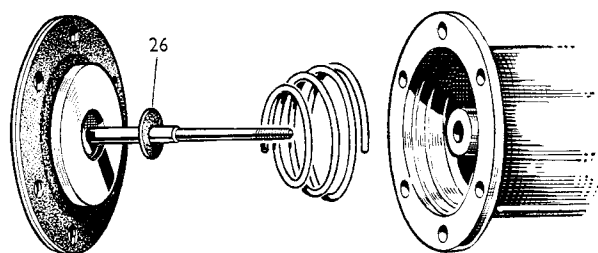

Fig. D.4.
taken to see that an impact washer (26), Fig. D.4, is fitted in the recess in the armature, and the latter should then be screwed in and the rollers put in position. There are eleven of these. Do not use jointing compound on the diaphragm.